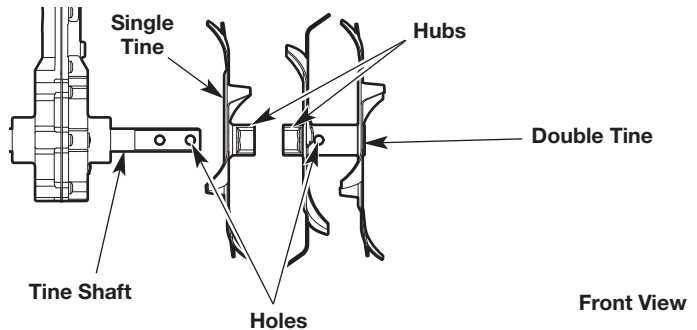

Fig. 13
2. Slide the new tines onto the tine shaft. The hubs must face toward each other (Fig. 13). Install the single tine first. Then install the double tine. Align the hole on the double tine with the hole on the tine shaft (Fig. 13).